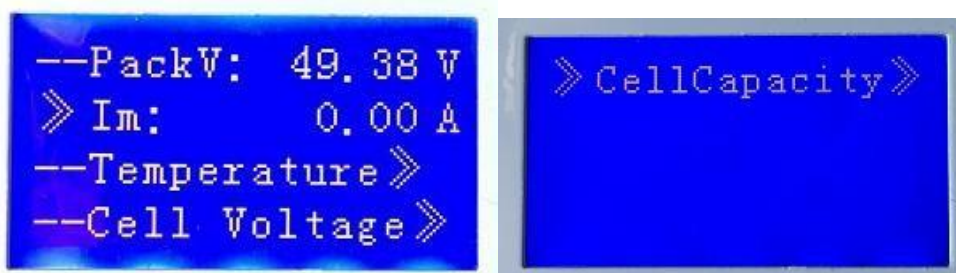

Figure 2
4.1 Analog Info: Figure 2 shows